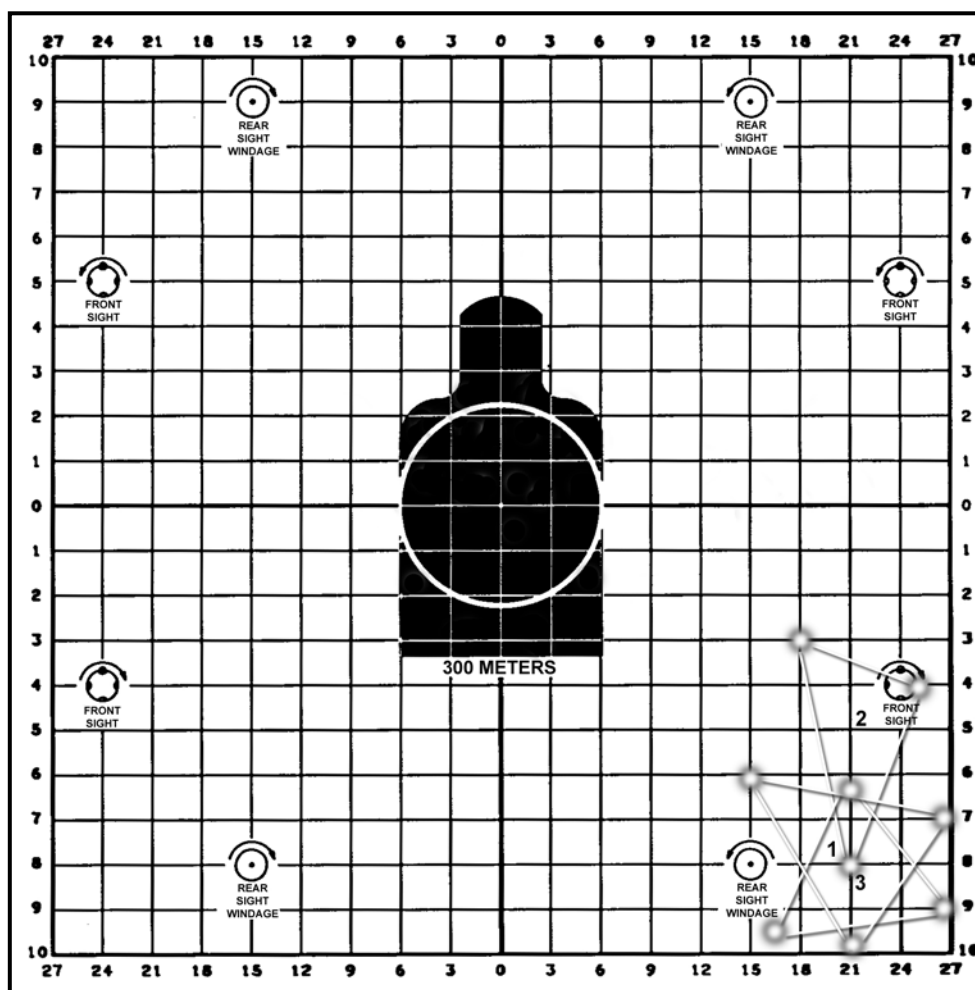

Figure 5-16. Improper shot groups on the edge of the target.
(6) **Improper Shot Groups on the Edge of the Target.** The shot groups shown in Figure 5-16 are improper groups. A sight change is made to bring the groups closer to the target center. A bold sight change should be made to ensure the shot groups remain on the 25-meter zero target.